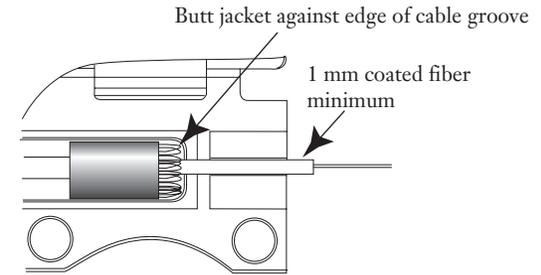

Figure 4-26
**4.7-3** Align the fiber in the handler as in shown in Figures 4-26 through 4-28.